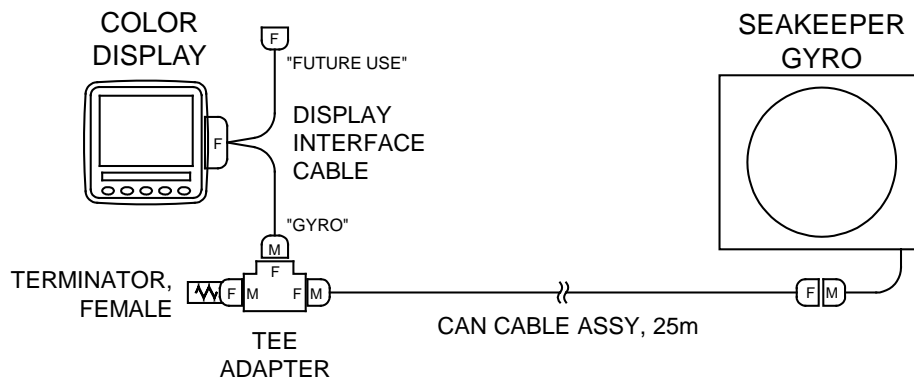

FIGURE 9 – SERIAL COMMUNICATIONS LINK FOR OPERATOR STATION
- c. Figure 9 below shows the CANbus communications link for the Operator Station. The Terminator goes on one the far end of the Tee Adapter from the Gyro.